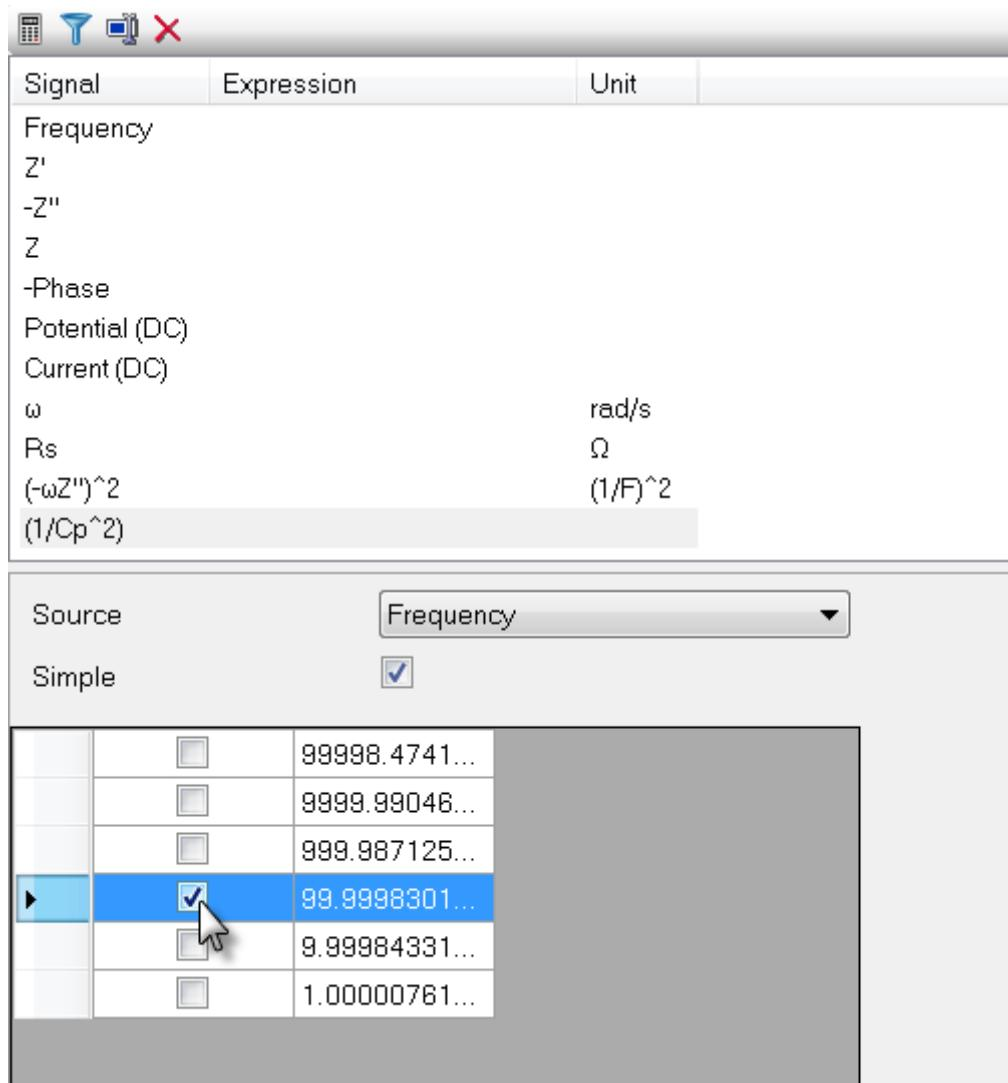
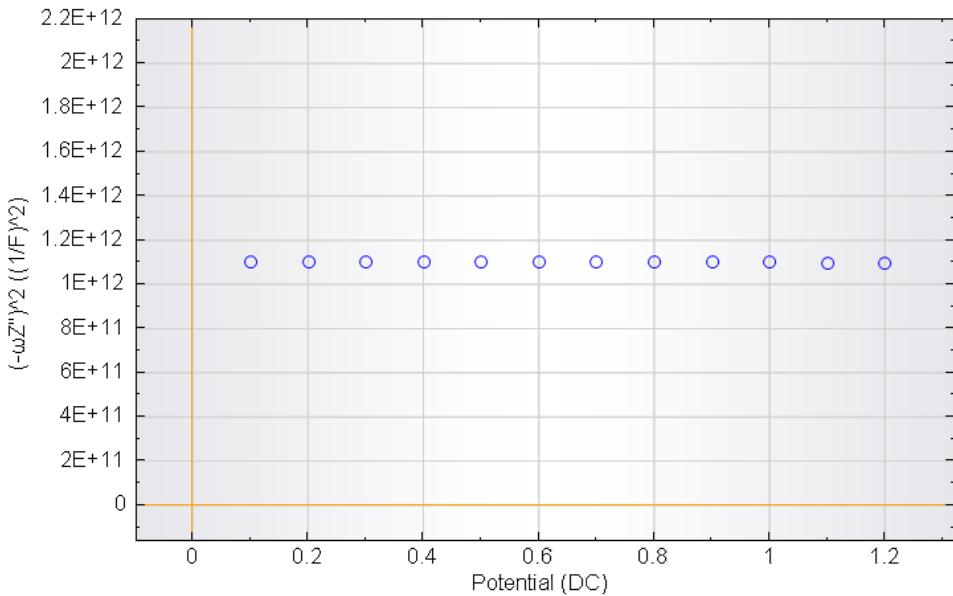

Figure 155 – Select the frequency in the frame on the right-hand side
Figure 156 – The **Rs-Cs** Mott-Schottky plot obtained from the data collected on the Autolab dummy cell (d)
In order to create the Mott-Schottky plots, one final user-defined parameter is required. Click the **Select frequency** item in the data explorer frame. A frequency selection table will be displayed on the right-hand side (see Figure 155).
The *Potential scan FRA data* analysis tool automatically prepares two Mott-Schottky plots (see Figure 156). The **Rs-Cs** assumes a linear RC equivalent circuit while the **Rs-Cp/Rp** assumes a R(RC) equivalent circuit.
The data shown in Figure 156 has been obtained by using the *Potential scan FRA data* analysis tool on experimental values obtained with the Autolab dummy cell (d). The equivalent circuit of this dummy cell includes a serial combination of a 5000 Ohm resistance and a 1 μF capacitance. The **Rs-Cs** plot has been created using the calculated data at 100 Hz (see Figure 155).